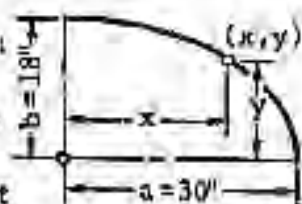

Figure 2: Quarter Layout
(Fig. 2)
1. Refer to Figure 2, which shows how the Cartesian x-y coordinates listed in Table I are used to plot a series of points that will define an accurate one-quarter of an ellipse. Make a pattern of cardboard or stiff paper that can be conveniently laid and traced upon a piece of covering material.